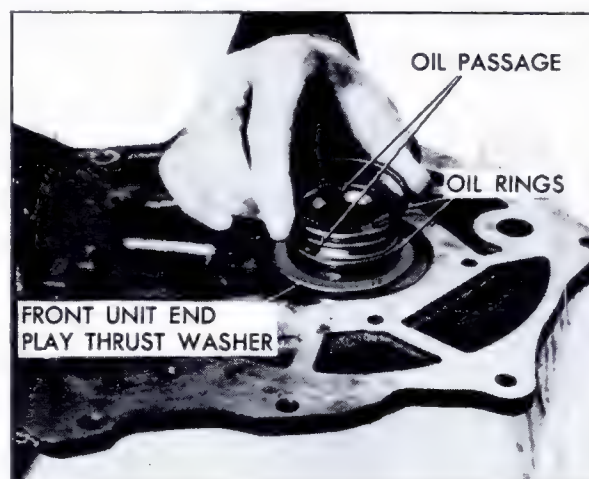

Fig. 7-171 Installing Oil Rings on Driven Sprocket Support
7. Install two hook type oil seal rings into the grooves in the hub of the driven sprocket support housing, Fig. 7-171.